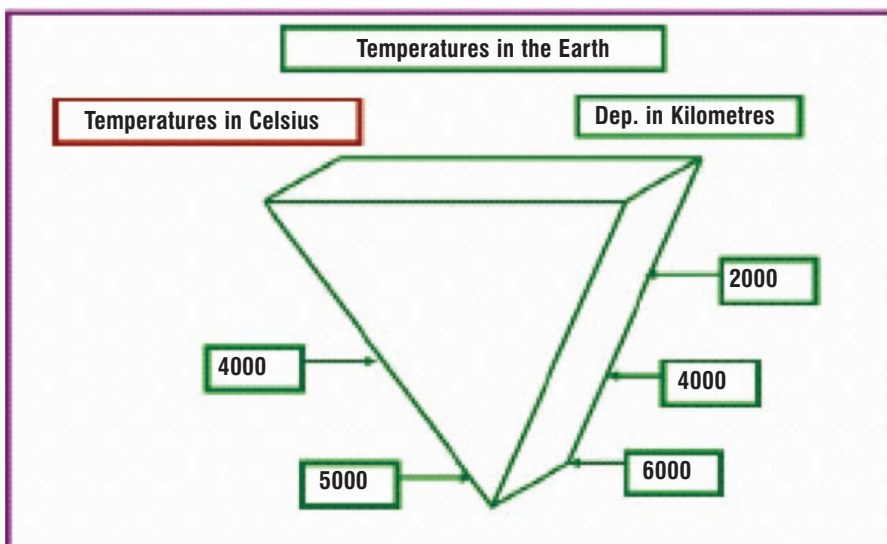

Fig. 3: Earth energy budget...
Heat pumps work on a similar principle to domestic refrigerators, extracting heat from one source and transferring it to another. A key ingredient in the heat pump is the refrigerant in its coils, usually a substance called Freon, which vaporises into a gas at a boiling point far lower than the 100°C that water requires to boil. When the refrigerant boils, it changes from a liquid to a gas, absorbing heat from its surroundings. As the refrigerant changes back into liquid form it gives up its heat to the surrounding atmosphere. An expansion valve and an electric compressor control this process of transformation from liquid to gas and back again. An Earth Energy (EE) heat pump is one of the most efficient means available to provide space heating/cooling for homes and offices (Figure 3). It transfers the heat located immediately under the earth's surface (or in a body of water) into a building in winter, using the same principle as a refrigerator that extracts heat from food and rejects into a kitchen. A heat pump takes heat from its source at low temperature and